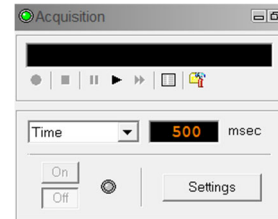

Figure 4-4: Acquisition Panel
- In the **Acquisition** panel (Figure 4-4) select the sampling mode (depth or time). Click on **Settings** and specify the corresponding sampling rate. Switch on the sampling (click the **ON** button).
- Press the **Record** button in the **Acquisition** panel (Figure 4-4), specify a file name and start the logging.